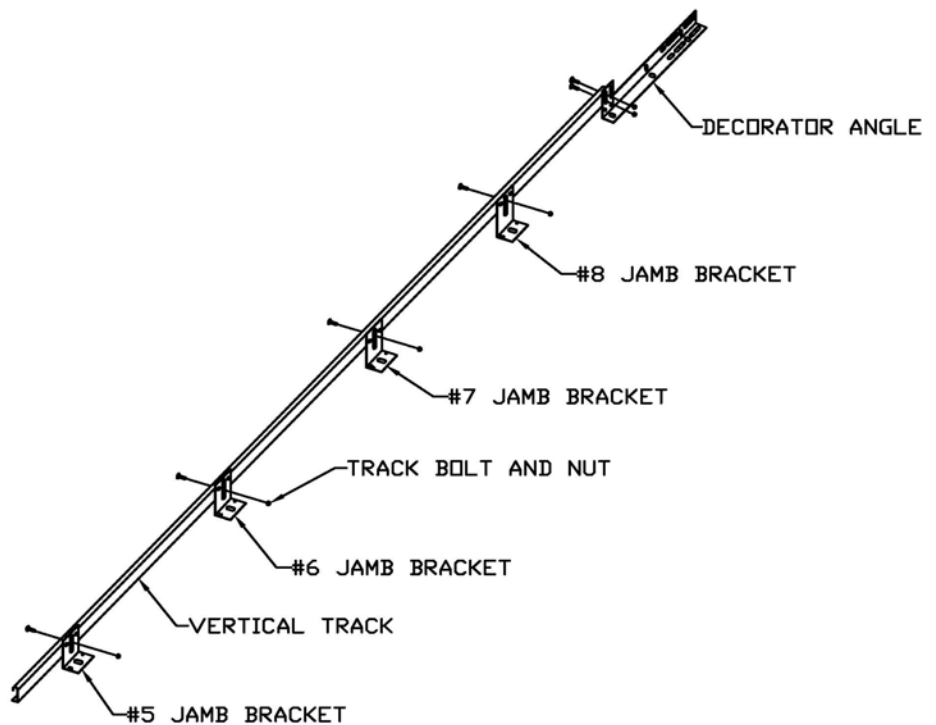

Figure 10
Step 11: Select the vertical (straight) tracks (approximately 8" less than the door height in standard headroom) and loosely bolt the jamb brackets and flag to each using 1/4" x 5/8" track bolts and nuts. Use only one track bolt per jamb bracket and place it in the center slotted hole. Make sure the heads of the track bolts are on the inside of the track. See figure 10. (If Angle mount track is ordered track will already be assembled.)